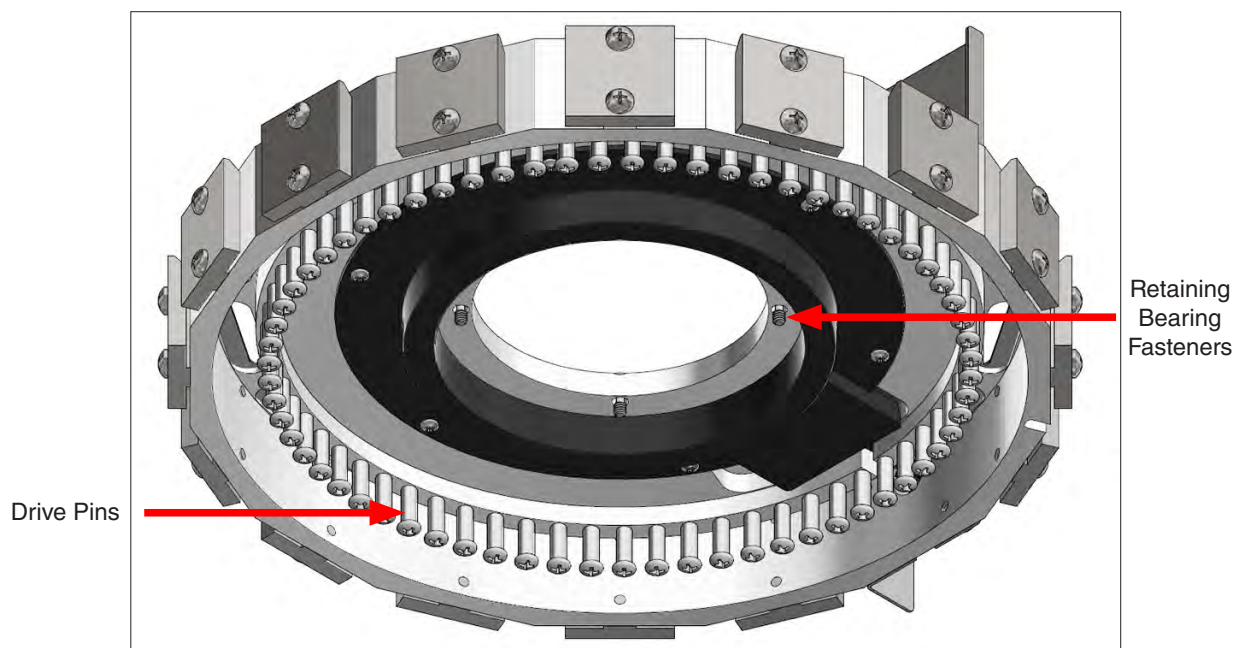

Figure 6.2b: Turntable bottom view showing drive pins and retaining bearing fasteners.
- The drive sprocket engages the turntable drive pins to rotate the turntable (Figure 6.2b).